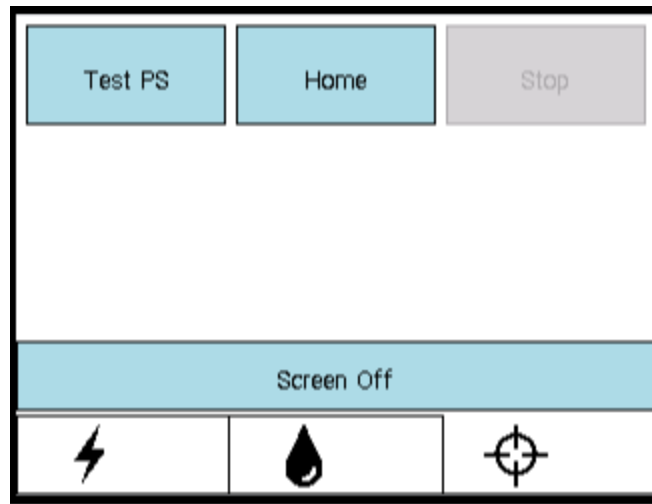
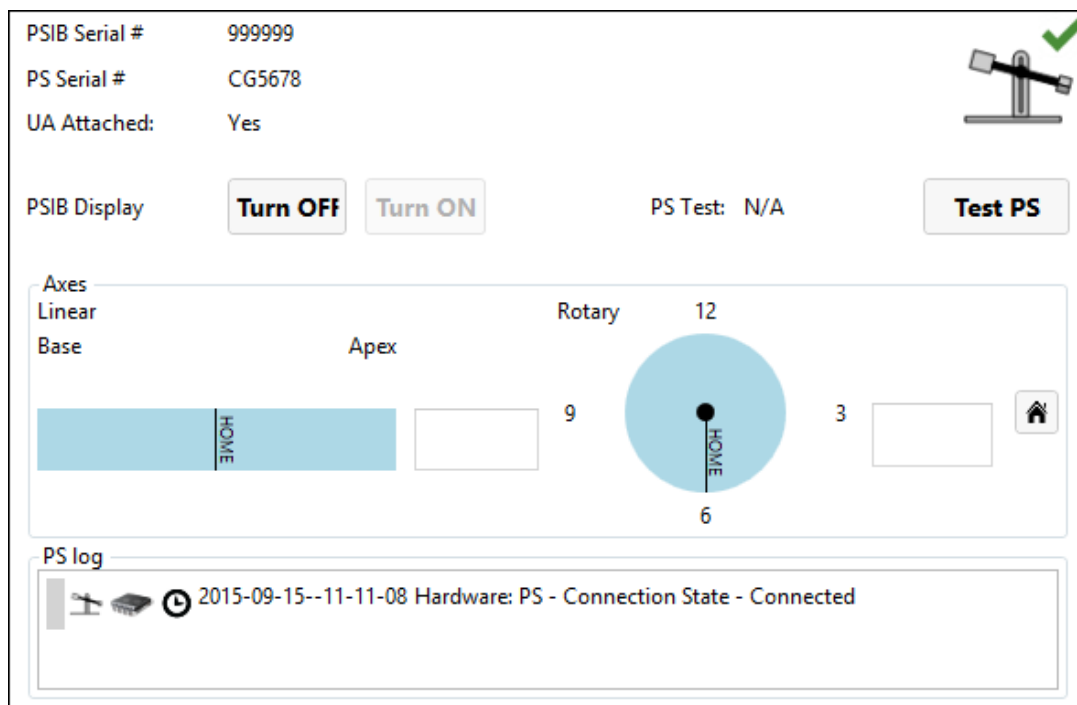

Figure 8: PSIB display - PS tab
Figure 9: PS information box in Setup workspace
- b. On the PSIB display, select the PS tab  and click **Test PS** (Figure 8). The system will translate the PS forward and backward to test the continuity and functionality of the translation axis as well as home the PS in the translation axis. The system will also rotate the rotational axis clockwise and counter-clockwise to test the continuity and functionality of the rotational axis. (This can also be done from the TDC Setup workspace in the PS information box in the bottom-right quadrant Figure 9.) You can move to the next step while the PS test is in progress.